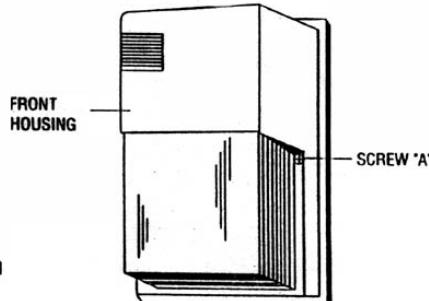

FIG. 1
1. REMOVE FRONT HOUSING (Fig. 1)